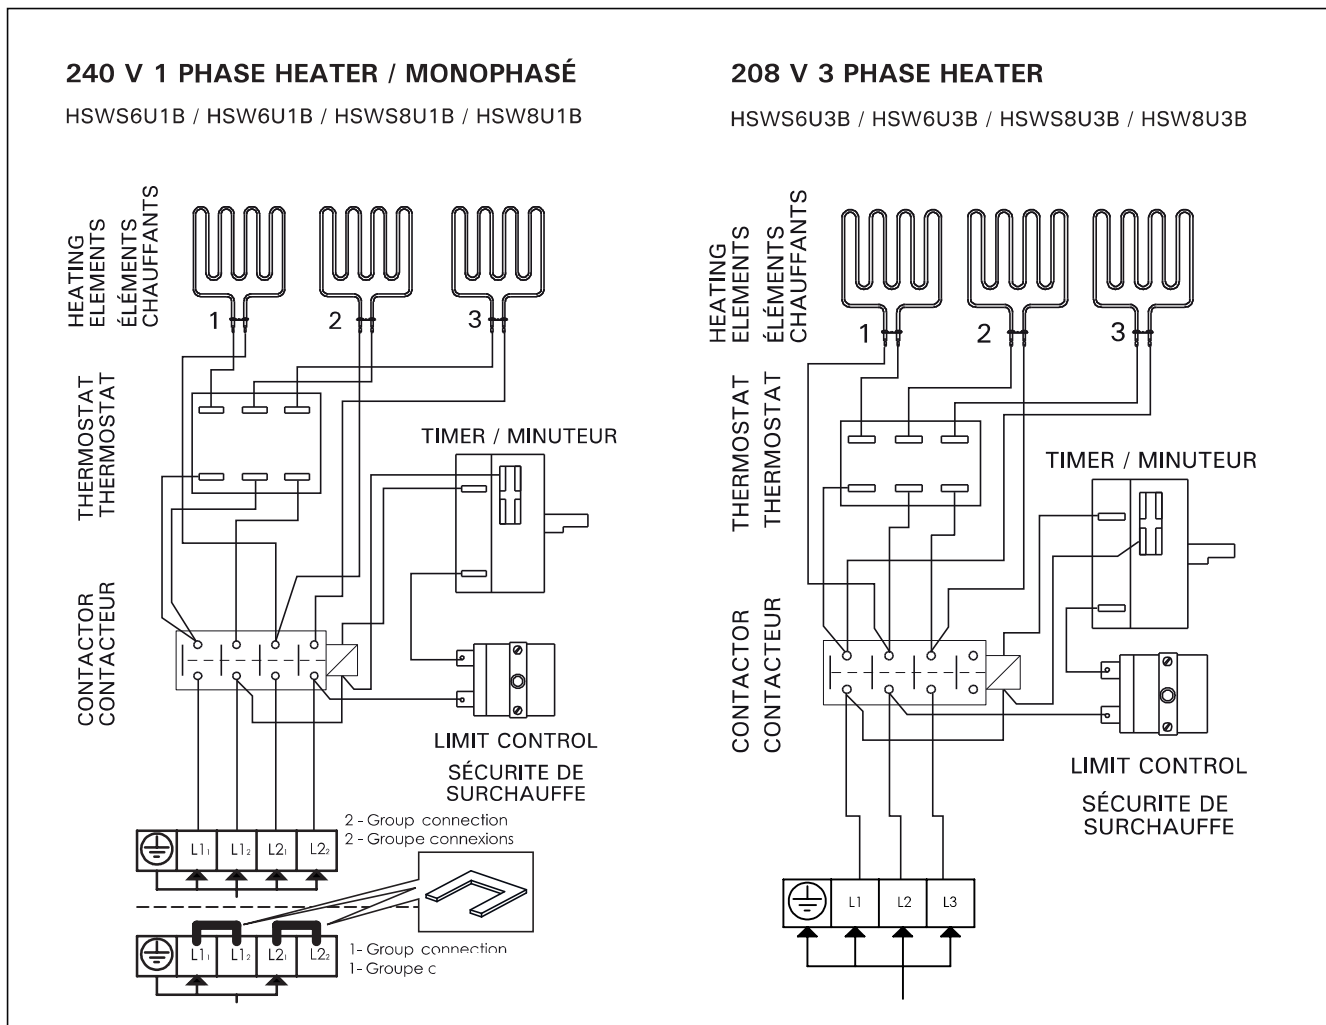

Figure 5. Electrical connections of the heater
2. See applicable wiring diagram for heater model (figure 5). Heater must be permanently installed by using seal tight conduit between the heater and the wall of the sauna room (pigtailed or plugs are not allowed in the sauna room). Wiring must be done by a licensed electrician, who must fol-